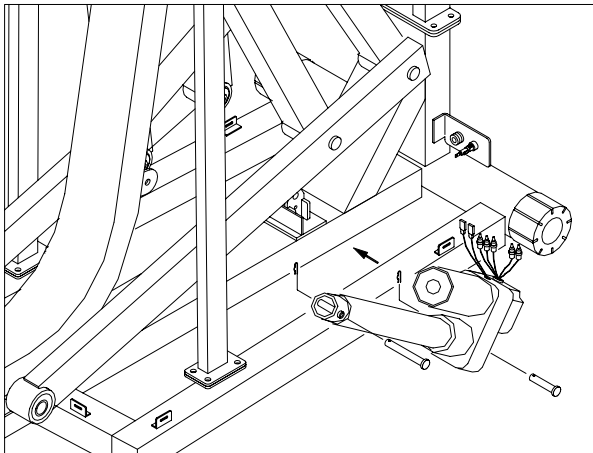

Figure 8. Reinstall the motor.
9. Reinstall the incline motor as shown in Figure 8.